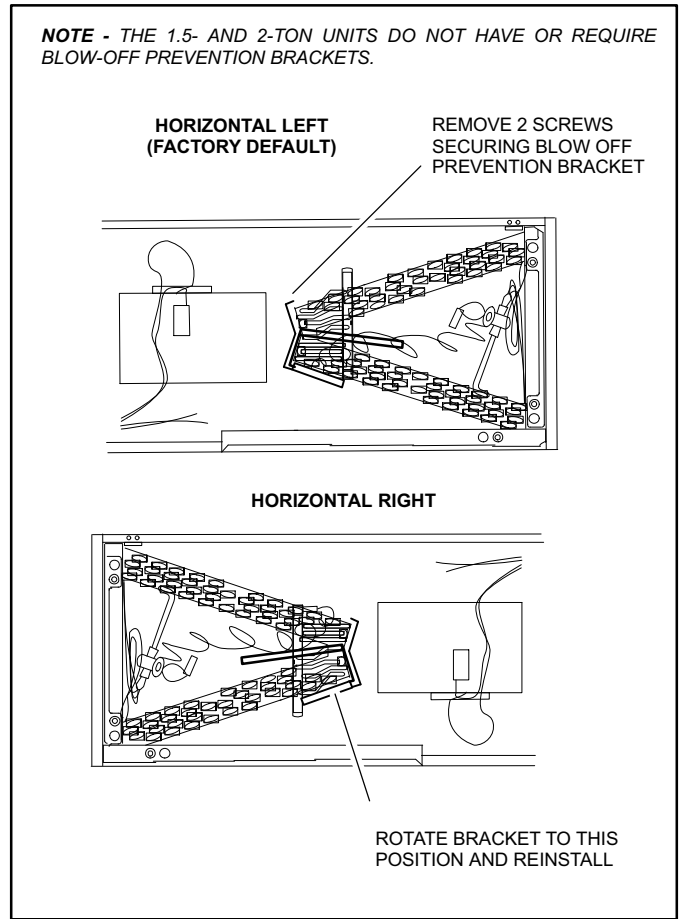

Figure 8. Blow-Off Prevention Bracket
6. Remove two screws securing the blow-off prevention bracket. Rotate the brackets 180° and reinstall using the same screws. See figure 8.